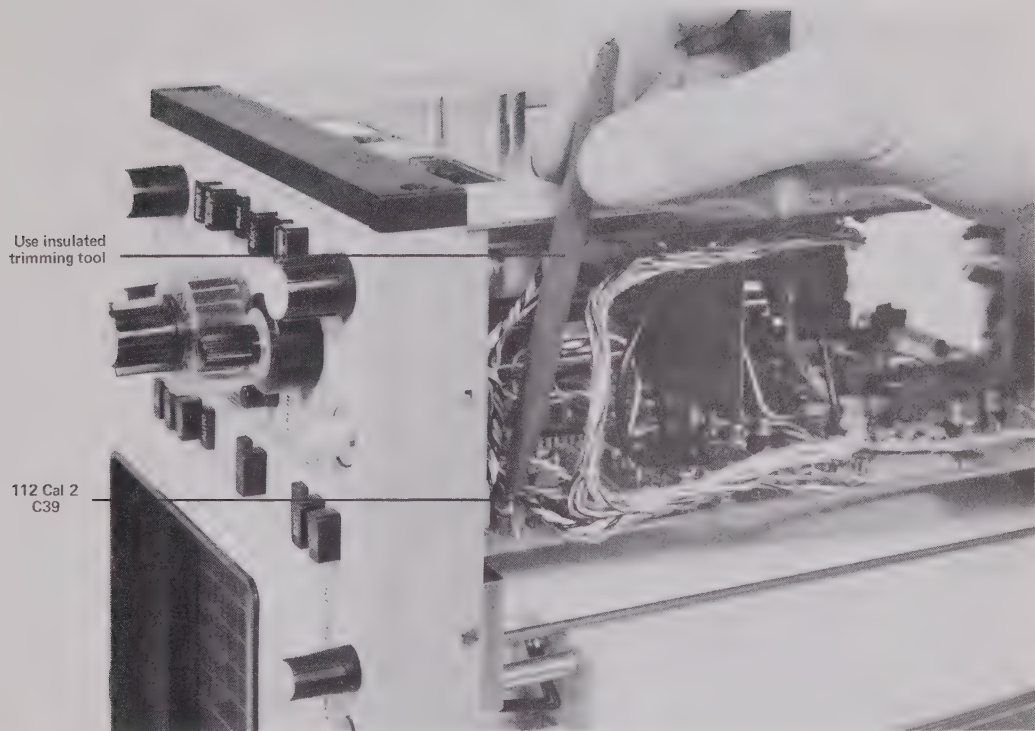

Fig. 11.27 Access to C39
5. Adjust C39 on pcb no. 1 to remove any feathering around the spots. C39 is accessible from underneath. See fig. 11.27.